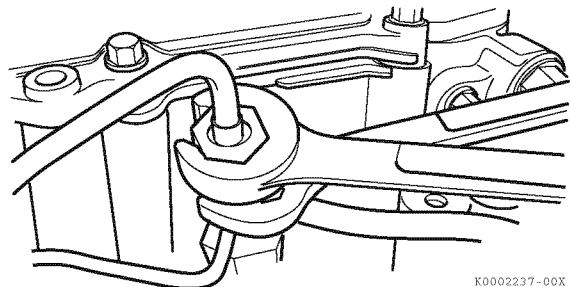

Figure 7-4
5. Next, loosen the fuel line nuts at the fuel injectors. Use one wrench to hold the fuel return line nut and fuel return line from rotating. Use a second wrench to loosen the fuel line nut (**Figure 7-4**). Repeat with the remaining fuel injectors.
3. When tightening the fuel line nuts on the fuel injectors, use one wrench to hold the fuel return line nut and fuel return line from rotating. Use a second wrench to tighten the fuel line nuts (**Figure 7-4**). *See Special Torque Chart on page 7-6.*